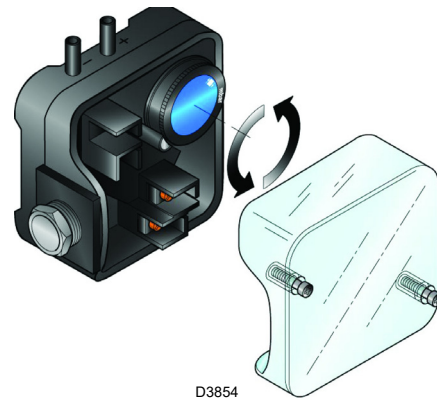

Fig. 47
- Adjust the air pressure switch (Fig. 47) to the start of the scale.
Adjust the air pressure switch (Fig. 47) after having performed all other burner adjustments with the air pressure switch set to the min. of the scale.